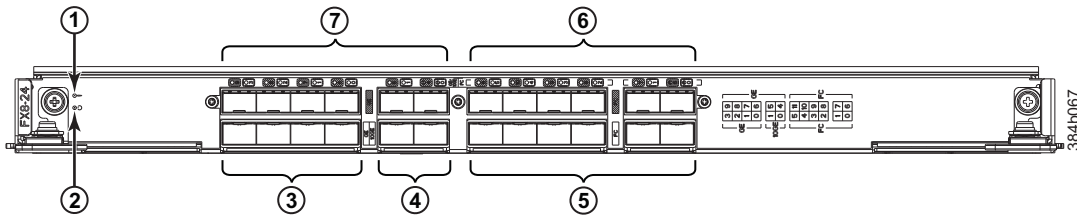

Figure 61. FX8-24 extension blade
- Figure 61 on page 149 shows an FX8-24 extension blade